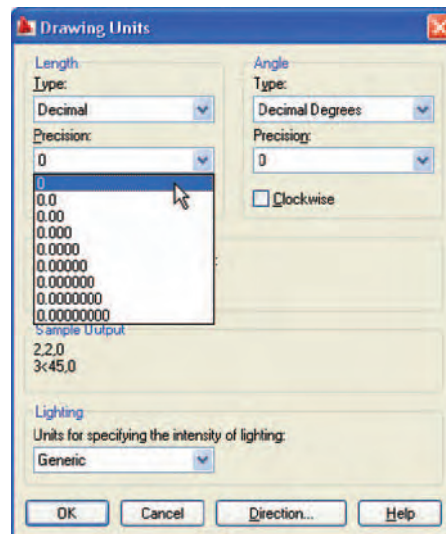

Fig. 1.27 Setting Units to 0
5. In the command palette *enter units* and *right-click*. The **Drawing Units** dialog appears (Fig. 1.27). In the **Precision** pop-up list of the **Length** area of the dialog, *click* on **0** and then *click* the **OK** button. Note the change in the coordinate units showing in the status bar.